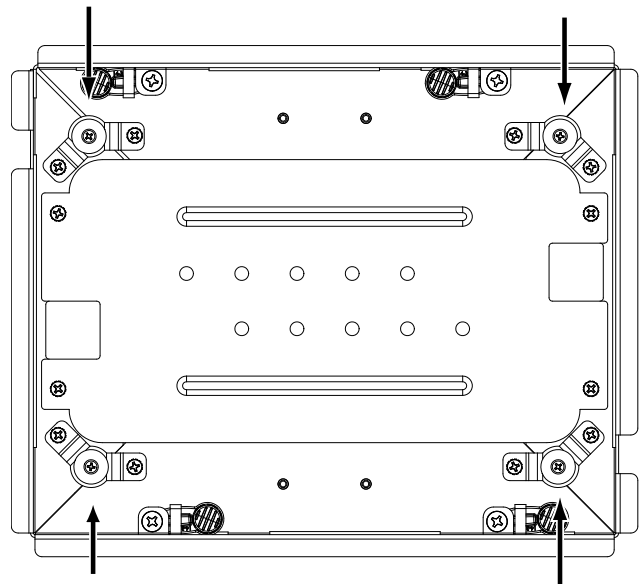

Figure 9: Height Screws
1. Mounting frame is supplied with a preset height setting. The preset adjustment will likely result with a space between the bezel and the wall surface. To adjust the height setting, turn screws clockwise, one turn at a time, until bezel fits snugly against the wall as shown in figure 9.